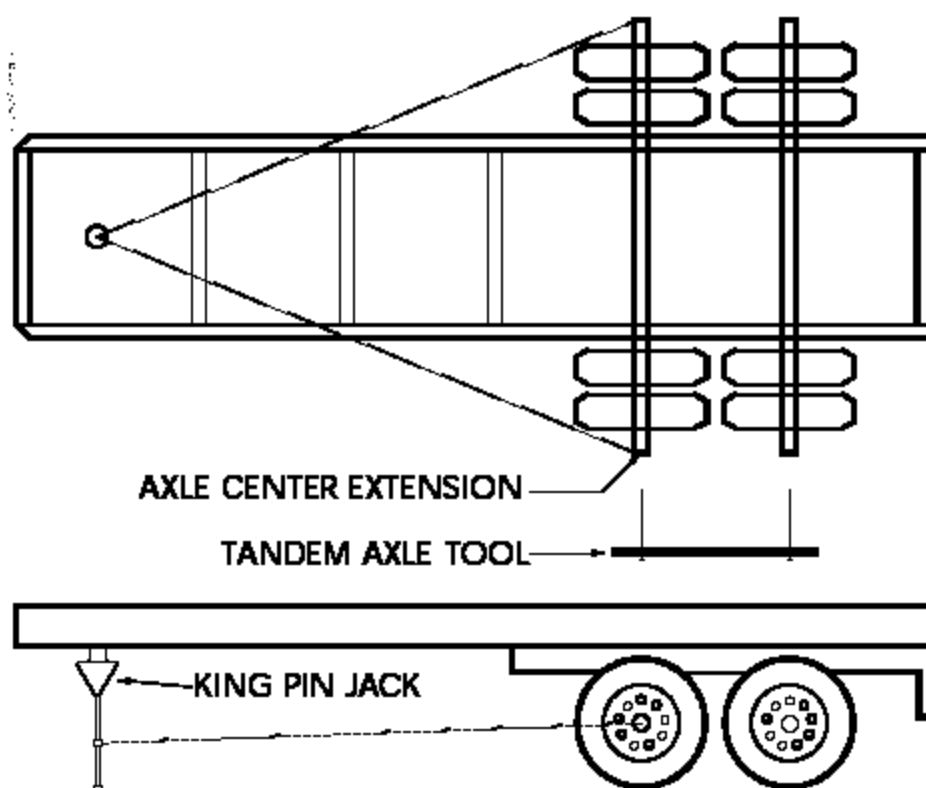

Figure 31. Axle Alignment (Triangulation)
3. Measure from the kingpin extensions to both of the front axle center extensions (Figure 31). This distance should be the same on both sides. If it is not, loosen the forward adjustable torque arm clamping nuts and adjust the axle to be square with the kingpin. Make sure there are no obstacles in front of the wheel during the alignment procedure.